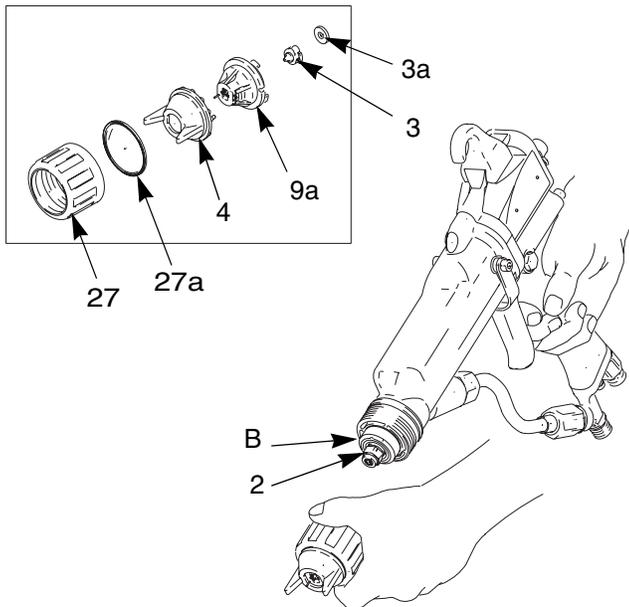

Fig. 8. Tip Guard, Air Cap, and Spray Tip Replacement
2. Remove the retaining ring (27), tip guard (4), air cap (9a), and spray tip (3). You may have to turn the air cap with the tip guard to remove it. See FIG. 8.